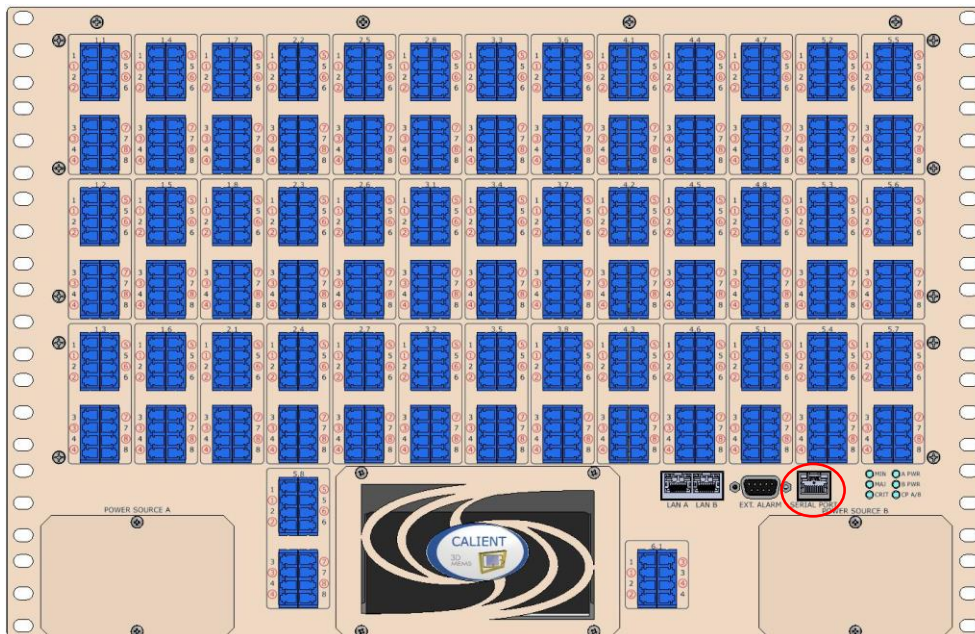
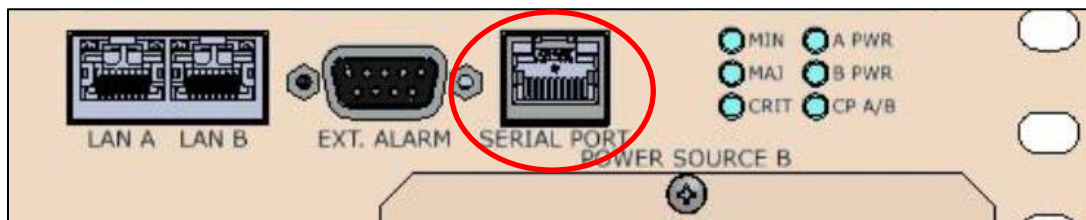

Figure 2 – Serial Port on OCS Chassis
Figure 3 – OCS Serial Port (Close Up)
1. Locate the Serial Port found on the lower-right front of the OCS chassis, as shown in Figure 2 and Figure 3.
3. Plug the RJ-45 connector into the Serial Port on the front of the OCS chassis (Figure 3).